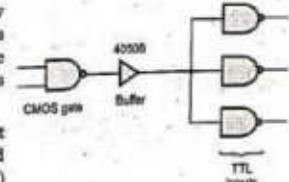

Fig. 3.5.4 CMOS driving TTL in LOW state using buffer
interface circuit is needed between the CMOS and TTL devices. Fig. 3.5.4 shows the possible interface circuit.
3. In Fig. 3.5.4 the CMOS 4050B, non-inverting buffer is used as an interfacing circuit. It has an output current rating of  $I_{OL(\text{max})} = 3 \text{ mA}$  which satisfies the TTL input current requirement.